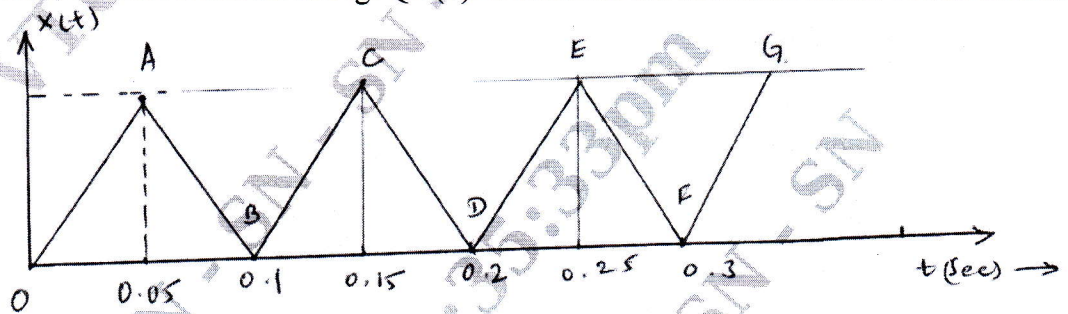

Fig. Q2 (b)
- b. A periodic motion is shown in Fig. Q2 (b). Determine the harmonic series of this motion.